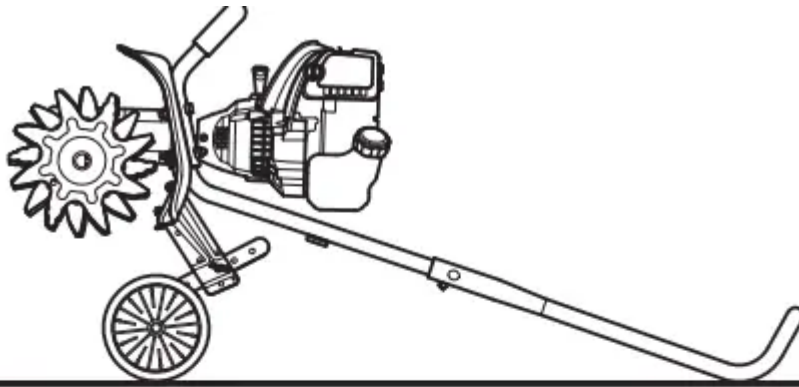

Fig. 5
1. Set the unit on a flat, level surface. Tip the unit back so that the handlebar touches the ground and the engine is in a horizontal position (Fig. 5).